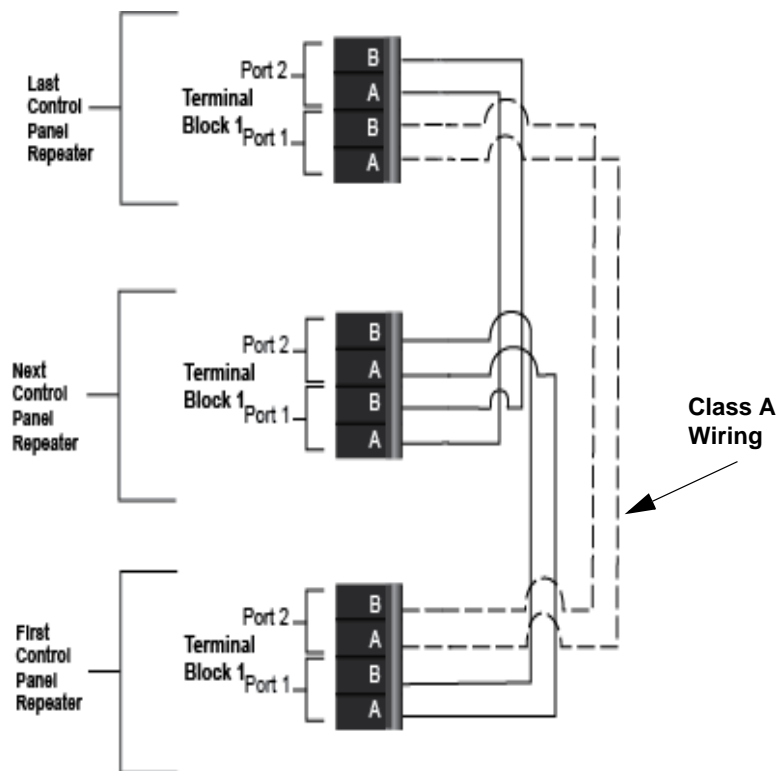
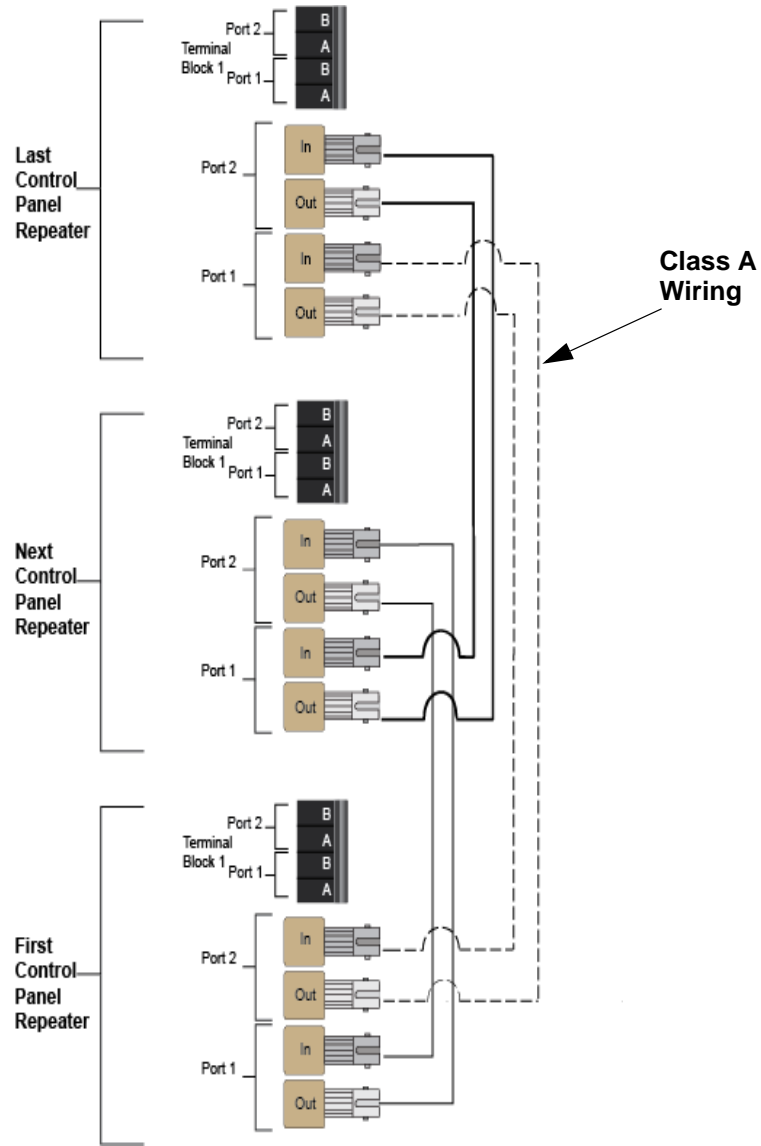
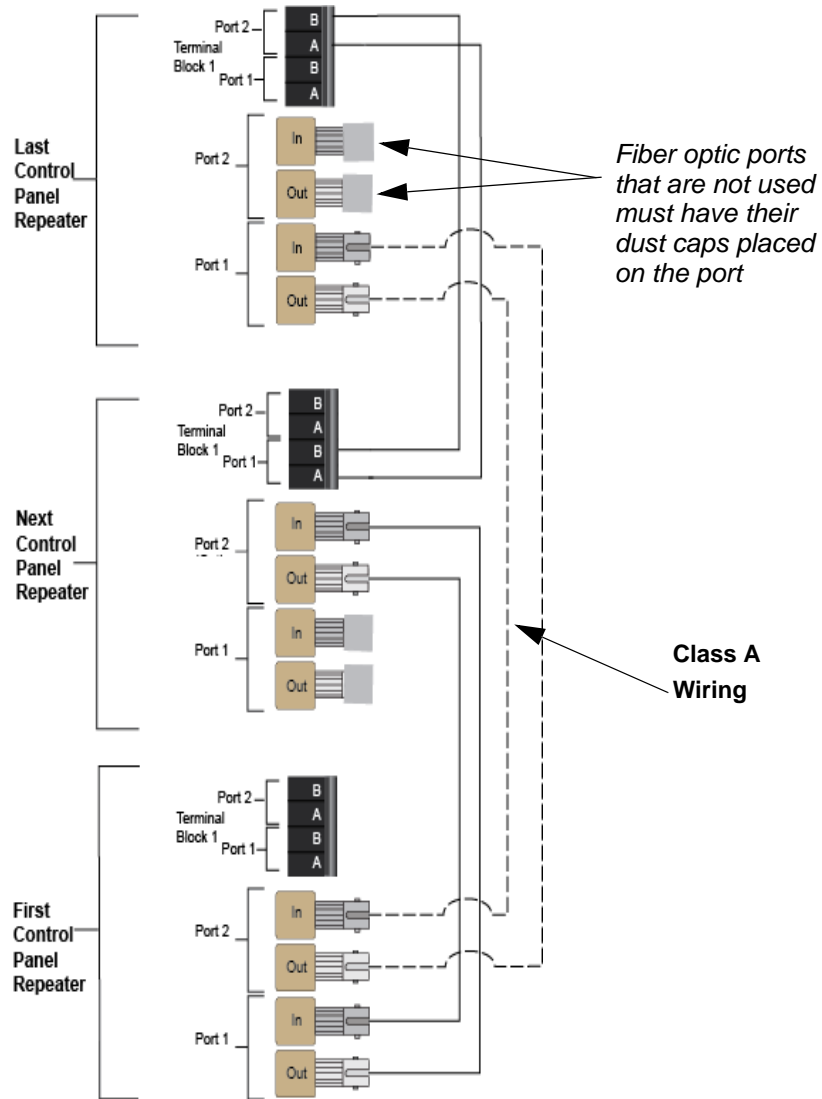
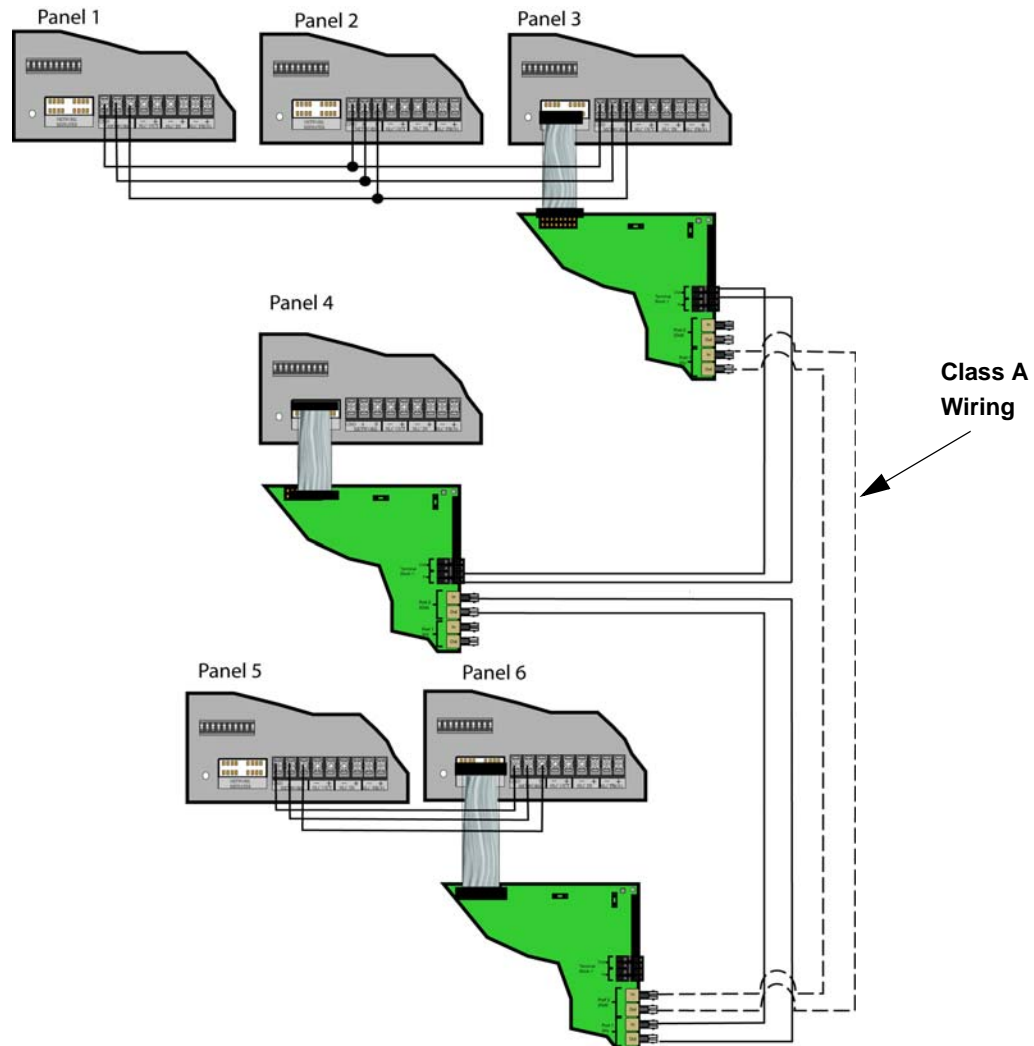

Figure 5-6 Twisted Pair Wiring Configuration
Figure 5-7 Fiber Optic Wiring Example
Figure 5-8 Twisted Pair and Fiber Optic Combination Wiring Example
Figure 5-9 Network Wiring Example Using Both Repeaters and Direct Connect Wiring
5. Based on the type of network repeater board chosen, run the twisted pair wiring /fiber optic cable to the next network repeater using a BUS or style 7 (class A) wiring method. A combination of both repeater types can be used. See Figure 5-6 on page 5, Figure 5-7 on page 6, Figure 5-8 on page 7, and Figure 5-9 on page 8 for repeater wiring examples.
Unshielded twisted pair wiring between multiple panels is shown in Figure 5-6. Class A wiring is shown with a dotted line.
Fiber optic cable between multiple panels is shown in Figure 5-7 on page 6. Class A is shown with a dotted line.
A mixture of fiber optic cable and twisted pair wiring between multiple panels is shown in Figure 5-8 on page 7.
Figure 5-9 on page 8 below shows a network wiring example using both repeaters and direct connect wiring. All repeaters in the system must be placed only on panels that are at the ends of a direct connect BUS or connected to panels with no direct connect network wiring.
**The following text details how the panel and repeater terminators must be set for the network example in Figure 5-9 on page 8.**